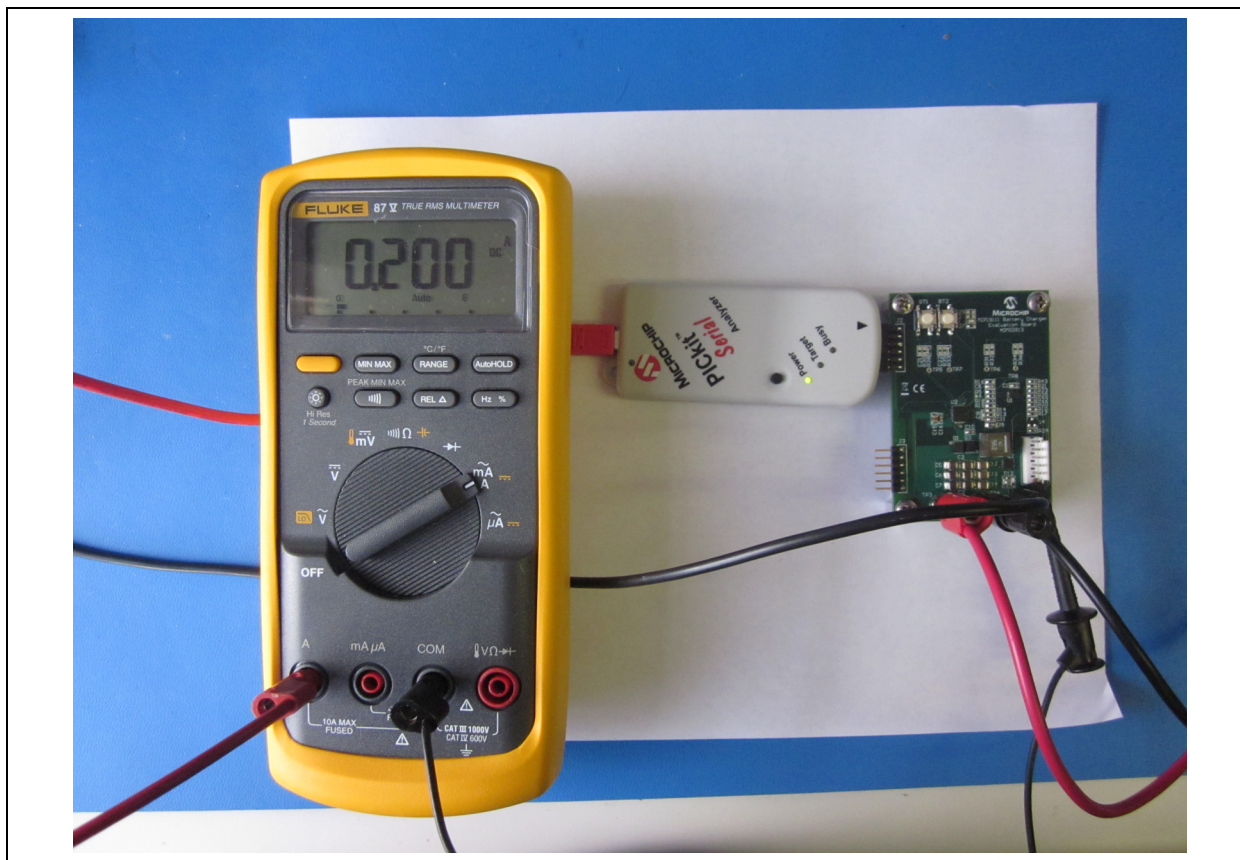

FIGURE 3-13: Current Calibration Setup.
- An additional power supply will be needed to provide constant-current values to the battery charger board. To ensure accurate calibration, input current should be run through a digital ammeter to display correct current values. This current should be connected to Pin 5 or 6 of J1. To complete the current loop, connect P_{GND} to the ground terminal of the constant-current power supply, so that both supplies share the same ground reference. Refer to Figure 3-13 for a correct configuration of the current calibration setup.